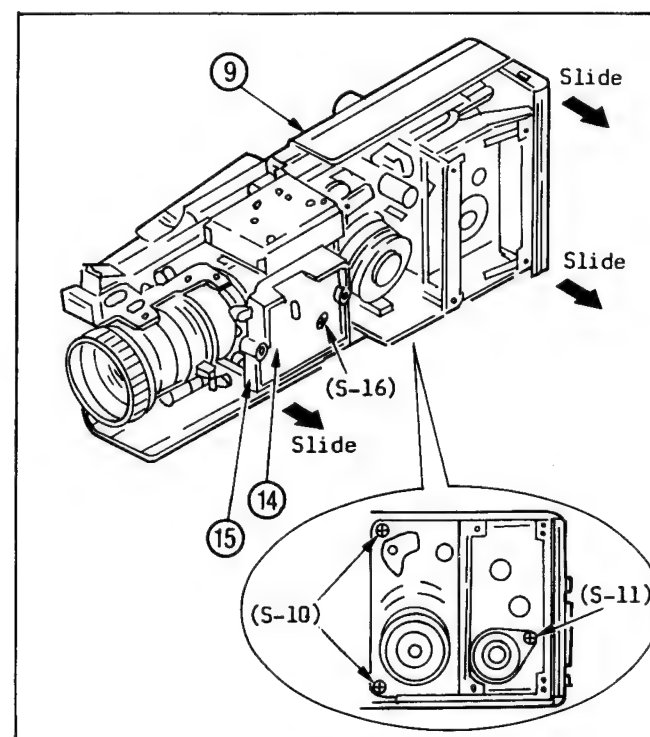

Fig. D6
7. 1) When removing Camera Operation Bracket, slide carefully in the direction shown by the arrow in Fig. D6.